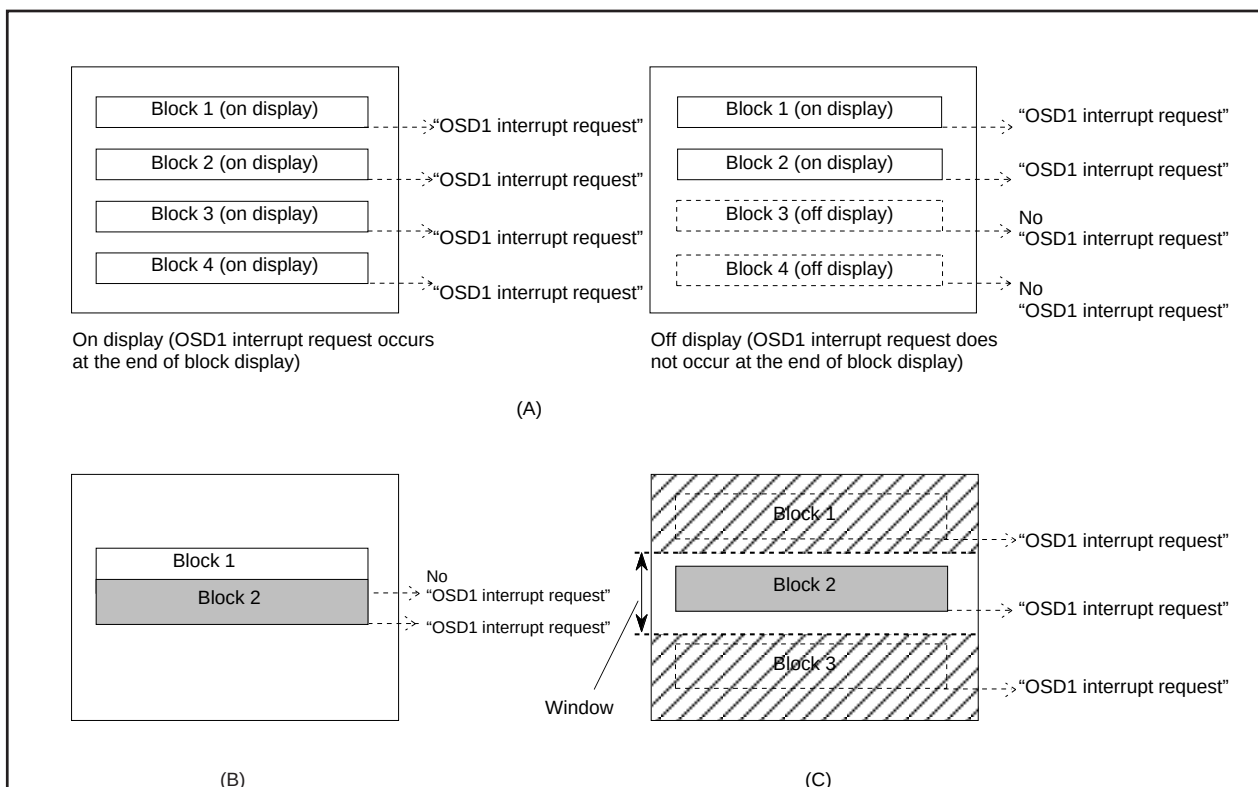

**Figure 2.16.40 Note on occurrence of OSD1 interrupt**
**2:** When another block display appears while one block is displayed, an OSD1 interrupt request occurs only once at the end of the another block display (refer to Figure 2.16.40 (B)).
**3:** On the screen setting window, an OSD1 interrupt occurs even at the end of the CC mode block (off display) out of window (refer to Figure 2.16.40 (C)).